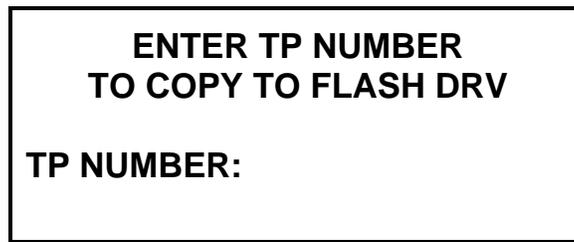

Figure 82.0 Copy Test Plan To Thumb Drive Status Display
- b. **Origin:** This menu is displayed after the operator selects the test plan number from the “Copy Test Plan To Thumb Drive” (Figure 82.0) status display.